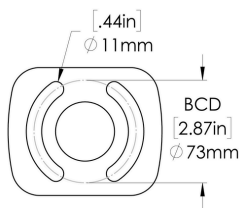

Fig. 8
1. Drill the required mounting holes into the mounting surface, refer to Fig. 8 for the knuckle mount base dimensions.